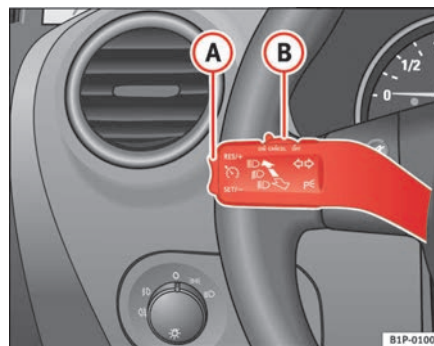

Fig. 128 Turn signal and main beam headlight lever switch and rocker switch for the cruise control
- Press the upper part **RES/+** of the rocker switch ⇒ fig. 128 **A** to increase the speed. The vehicle will continue to accelerate for as long as you keep the rocker switch pressed. When you release the switch, the new speed is stored.
Control of the set speed is switched off if you reduce speed by depressing the brake pedal. You can reactivate the control by pressing once on the upper part of the rocker switch **RES/+** ⇒ page 168, fig. 128 **A**.